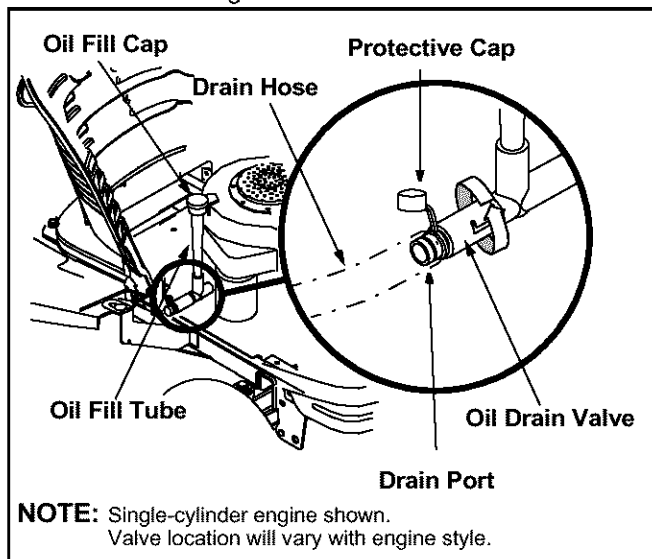

Figure 18
- Unscrew oil fill cap and remove dipstick from the oil fill tube. See Figure 18.
- Pop open the protective cap on the end of the oil drain valve to expose the drain port. See Figure 18.
- Push the oil drain valve in slightly, then rotate counterclockwise and pull outward to begin draining oil. See Figure 18.